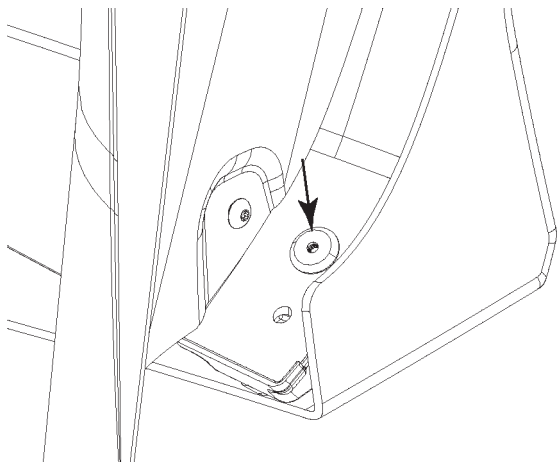

FIGURE 18
29. Using rivets, attach the wheel well bracket to the vehicle. Refer to figure 18.